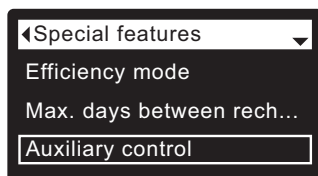

FIG. 86
1. From any of the rolling status screens, press the SELECT (O) button to display the **Main menu**.
3. Press the SELECT (O) button to display the Advanced settings menu.
5. Press the SELECT (O) button to display the Special features menu (See Figure 86).
9. Press the SELECT (O) button. The display will go back to the Special features menu (Figure 86).